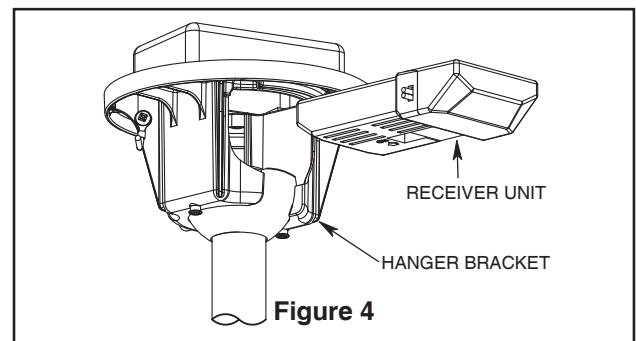

Figure 4
4. Position downrod support and align the clevis pin holes in both parts. Install the clevis pin and secure with the hairpin clip. Tighten the two set screws and locking nuts in the downrod support (Figure 4).
- 2. Carefully lift the fan and seat the downrod/hanger ball assembly on the hanger bracket that was just attached to the outlet box. Be sure the groove in the ball is lined up with tab on the hanger bracket (Figure 4).
3. Slide the receiver unit into the open end of the hanger bracket (Figure 4).
4. Connect the black wire from the socket plate assembly to the black wire from the motor assembly, and the white wire from the socket plate assembly to the white wire from the motor assembly (Figure 4).
- 4. The 5-button hand-held remote transmitter includes buttons for high, medium and low fan speeds as well as buttons for fan off and light on/off. Infinite light levels are available by holding the light on/off button (Figure 4).